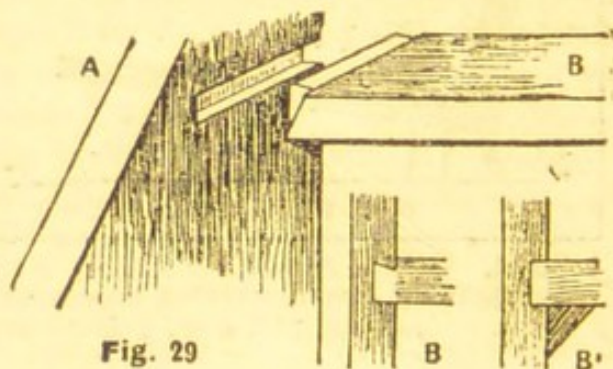
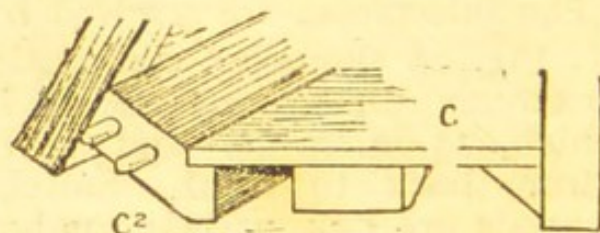

Fig. 29
Fig. 30
The amateur worker should take great care to keep the edges square when cutting to shape, the grain being vertical. About 2 in. below the upper shaping the top of box will require fitting, and the strongest method is to dovetail-groove or half-dovetail the parts together, as indicated at B (Fig. 29), which, if properly done, will make the part as firm as a rock. The sides may, however, be simply housed for the top to enter and be glue-blocked under, as at B (Fig. 30), the joint in both cases being stopped back $\frac{1}{2}$ in. from the front. The parts, of course, should be dowelled together in order to make a good job.
The top (B) should be $\frac{3}{4}$ in. thick, or preferably $\frac{7}{8}$ in. thick net, and has the front edge bevelled in line with the slope of sides. The bottom (C, Fig. 30) can be fitted in the same manner as the top, of $\frac{1}{2}$ in. net thickness by 15 in. by 13 in., and will be stiffened by fitting a glued strip of 1 in. material to the front edge (C¹), where the front fall strikes it. Usually, however, a rail of 1 in. material is fitted in the cant as at C², the part being stubbed, dowelled, or housed into the sides. The bottom, with the grain running from front to back, lies in a rebate cut for it, and is blocked under to provide the extra stiffening which is required. The front fall, or lid, is framed of wood, not less than $\frac{1}{2}$ in. net, and preferably $\frac{7}{8}$ in. Stiles and rails are $1\frac{3}{4}$ in. wide, mortised
The back (E) may be in one piece, which should be $13\frac{1}{2}$ in. by 11 in. by $\frac{3}{4}$ in. or $\frac{7}{8}$ in., this extra thickness being not out of the way as a stiffening against the impact of the coal container when being jerked in when full. The back may, however, be framed up of stiles and rails $1\frac{1}{2}$ in. or $1\frac{3}{4}$ in. wide, with a grooved-in panel of $\frac{1}{2}$ in. net thickness. The frame may be mortised and tenoned or dowelled together and dowelled to sides, the holding being stiffened by glue-blocking in the inner angles, as indicated at Fig. 29.